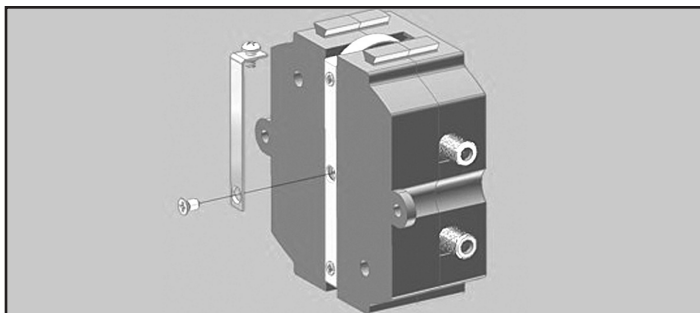

Figure 3. Removing the Central Phillips Screw/Retrait de la vis cruciforme centrale/Retire el desarmador central Phillips
1. Attach the auxiliary ground terminal strip provided to the rear of the unit by removing the central Phillips screw as shown in **Figure 3**. **Note:** When joining CHSP modules together, only one module is required to be connected to ground via an auxiliary ground terminal, as the rest are automatically grounded when joined via the spring terminals. The auxiliary ground terminal strip should be attached to the “end” module closest to the grounding point.
1. Fixez la borne de mise à la terre auxiliaire fournie sur l'arrière de l'unité en retirant la vis cruciforme centrale, comme illustré à la **Figure 3**.